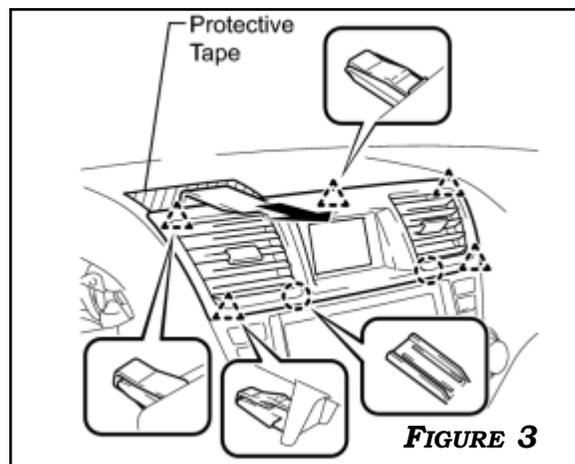

FIGURE 3
3. USE PROTECTIVE TAPE TAPE IN THE AREAS SHOWN IN THE ILLUSTRATION. USING A MOULDING REMOVER, DISENGAGE THE 2 CLAWS AND 5 CLIPS, AND THEN REMOVE THE CENTER INSTRUMENT PANEL REGISTER ASSEMBLY AS SHOWN IN THE ILLUSTRATION. **FIGURE 3**